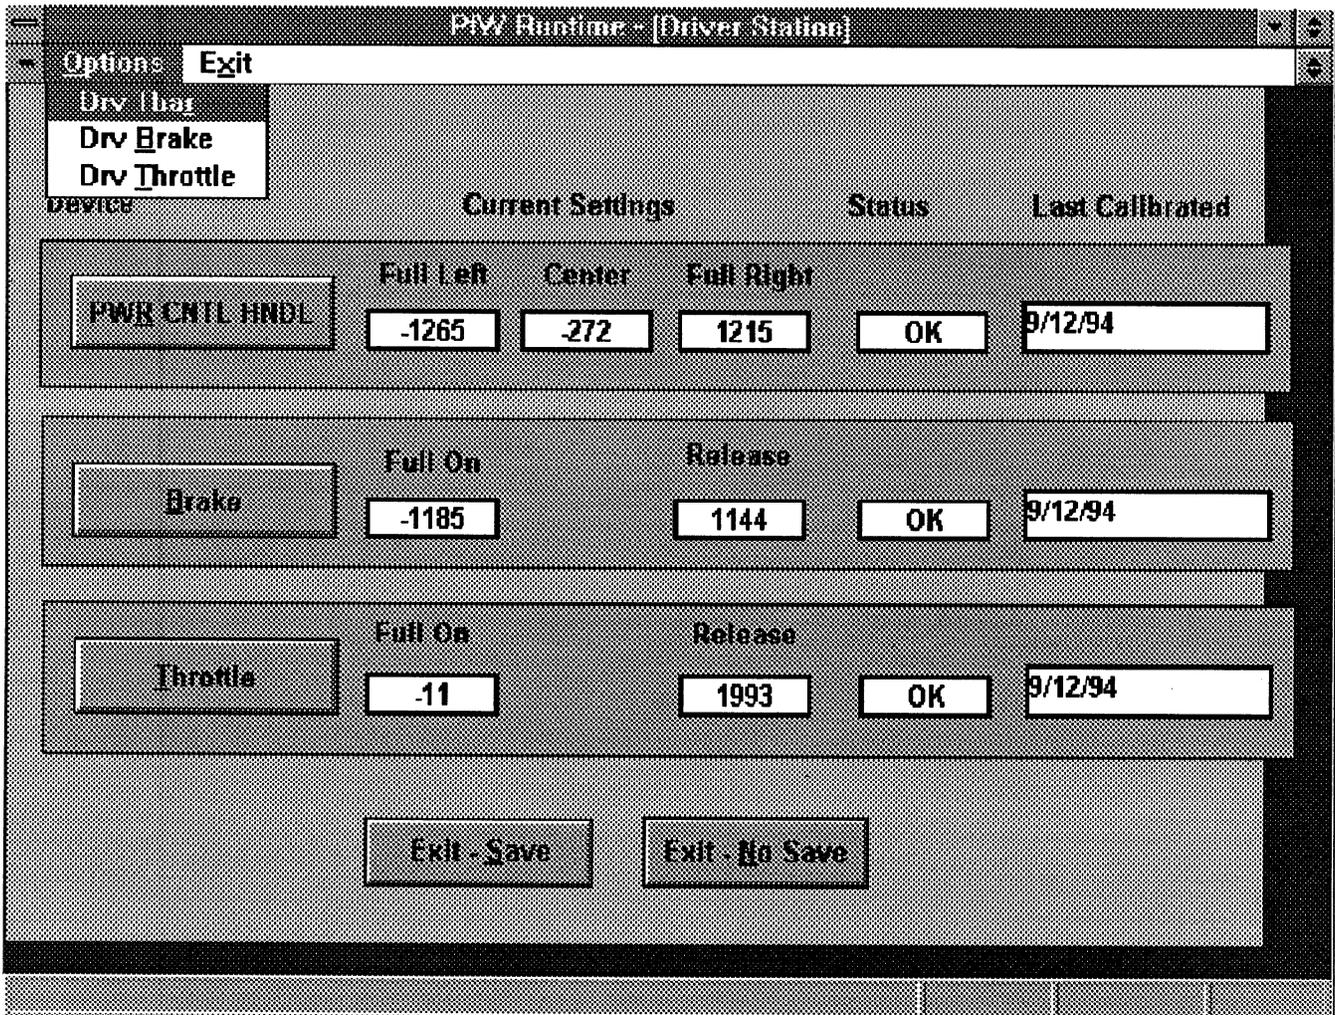

Figure 2-103. Driver Station Screen
- a. At the Calibrate/Recalibrate Screen, click on the Driver Station button or select DRV Station from the pull-down Options menu. The Driver Station Screen, Figure 2-103, displays.